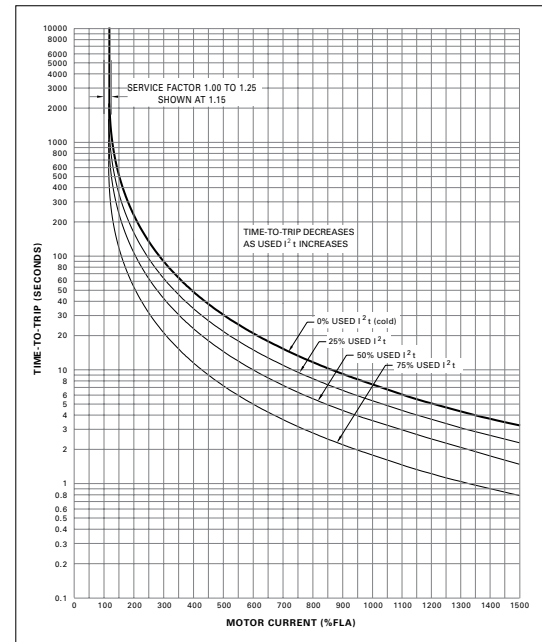

FIGURE 12
**Solution:** An I2t Thermal Model provides thermal-overload protection of motor windings during all phases of operation. By integrating the square of the current over time, a thermal model can predict motor temperature and react much quicker than embedded temperature devices. A thermal model takes into consideration the motor service factor, full-load current and class. A dynamic thermal model adjusts the time-to-trip depending on how much motor thermal capacity has been used. *Figure 12* illustrates the adjustment in trip time for different current levels at different levels of used thermal capacity (I2t).